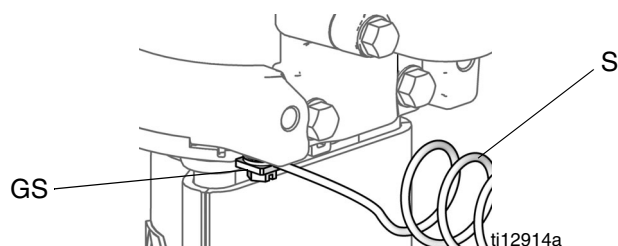

FIG. 3. Ground screw and wire
See FIG. 3. Verify that the ground screw (GS) is attached and tightened securely to the air motor. Connect the other end of the ground wire (S) to a true earth ground.